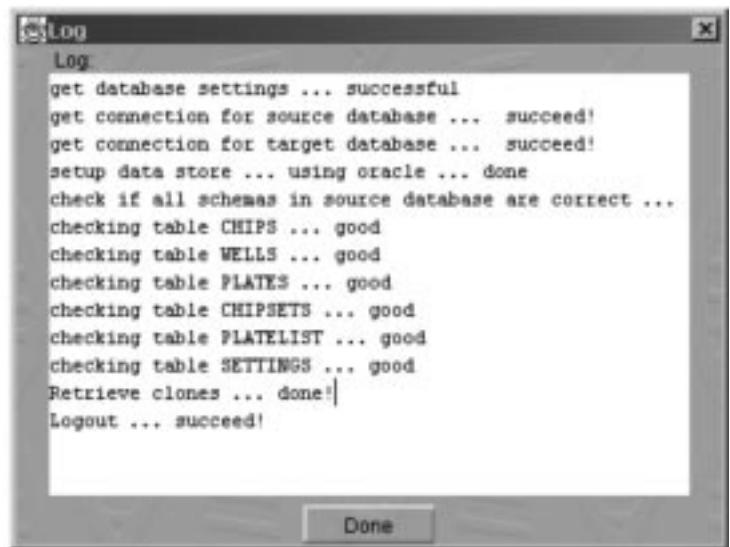

Fig. 3-2
5. The information is transferred and Log window is then displayed. If the same data exists within the new database, the user is prompted what to do with the data. (Fig.3-2)